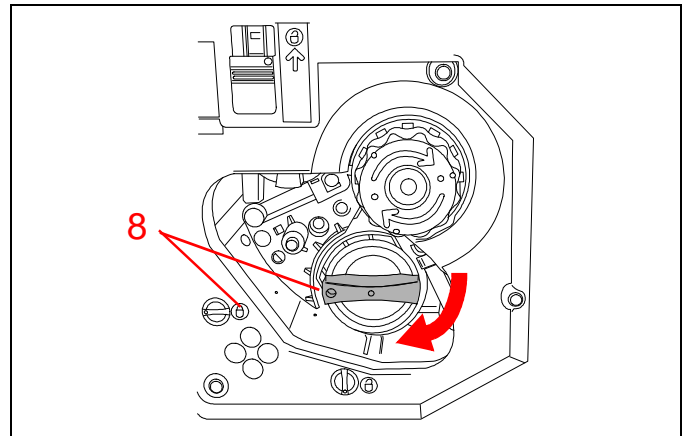

Figure 27
8. See Figure 27. Turn the handle on the cartridge clockwise until the “●” mark on the cartridge aligns with the locked symbol (🔒) on the copier/printer.